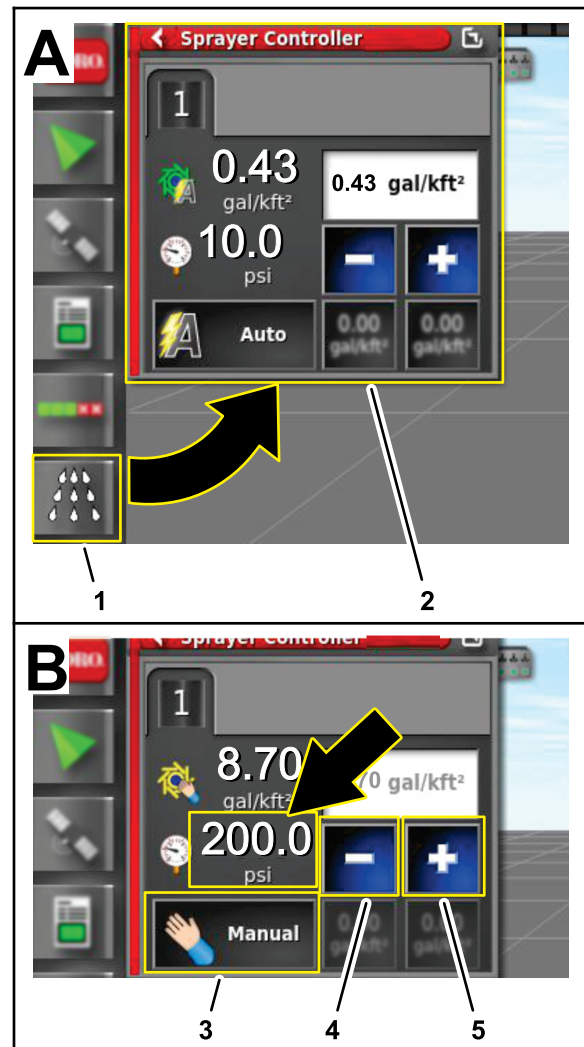

Figure 162
4. On the GeoLink control console, press the SPRAY RATE CONTROLLER icon (Figure 162).
5. In the spray rate controller dialog box, press the RATE CONTROL MODE icon until manual mode displays (Figure 162).
6. Use the decrement icon (-) or increment icon (+) to adjust the spray system pressure (Figure 162) to 13.75 bar (200 psi).